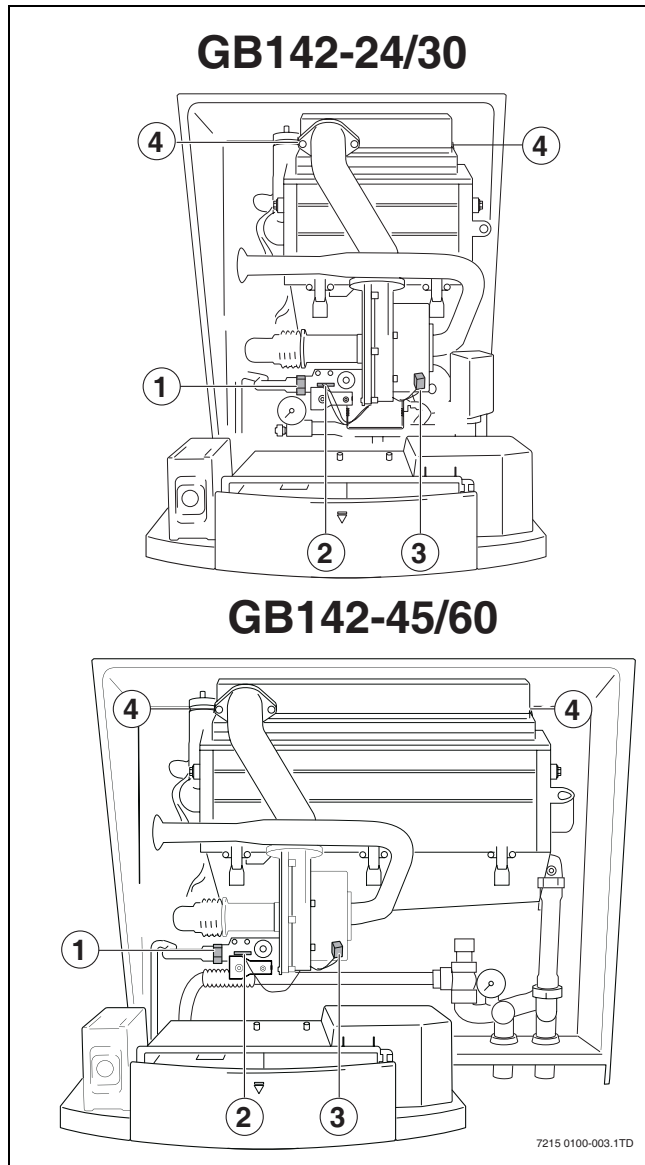

Fig. 3 Overview GB 142-24/30/45/60
- ▶ Loosen the screw connection on the gas valve (→ fig. 3, [1]) and pull the plug (→ fig. 3, [2]) from the gas valve.
- ▶ Pull both plugs from the fan unit (→ fig. 3, [3]).
- ▶ Loosen both retaining clips (→ fig. 3, [4]) on the burner cover and remove the burner cover together with the fan unit and the gas valve.